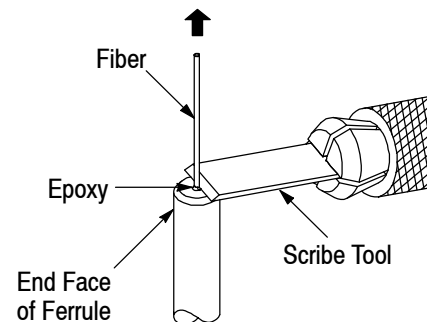

Figure 15
1. Using Sapphire Scribe Tool 504064-1 or similar scribe tool, gently brush the tool blade across the fiber at a 3 to 5° angle (about the diameter of one fiber from the ferrule surface). See Figure 15. Do not apply force on the fiber with the blade while scribing since excessive force may fracture the fiber making the connector useless.